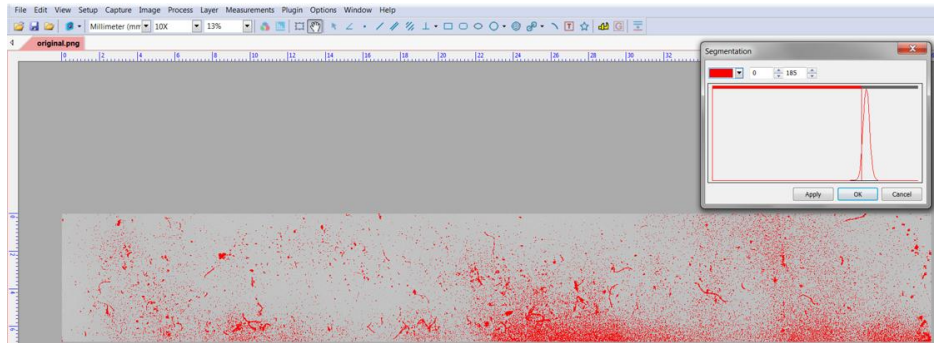
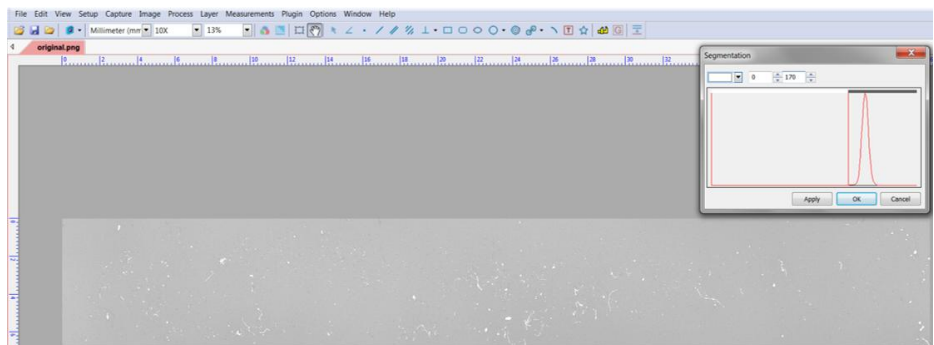

Figure 45. Segmentation (red) with an excessively large threshold value
Figure 46. Segmentation (white) correctly highlighting dark particles
10) Drag the left threshold bar in the **Segmentation dialog** all the way left to 0. Pixels that are true black, i.e. equal to 0, are highlighted in a different color. The highlight color is red in Figure 45.
11) Raising the value of the right threshold bar will highlight progressively lighter colored pixels. Adjust the right threshold bar so that only the dark particles are highlighted. The threshold value is too high if highlighted pixels appear where there were no particles in the original stitched image, like shadowing around the edges of the image in Figure 45. Figure 46 is an example of how to correctly apply the segmentation process. The optimal threshold range will vary depending on the microscope setup.